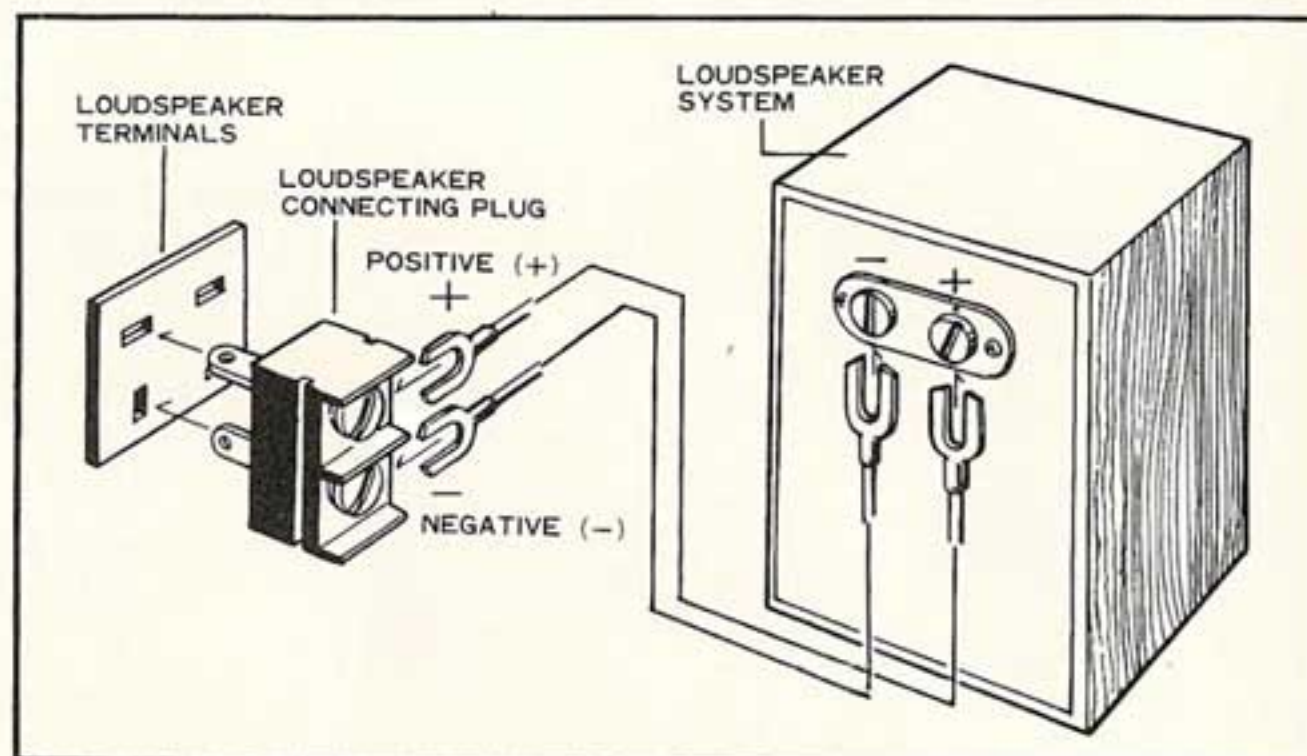

Fig. 5
1. Connect accessory loudspeaker plugs to the leads of loudspeaker system, as shown in Fig. 5. Loudspeaker leads have polarity [positive (+) and negative (-)] so connect them correctly. If positive and negative leads are shorted, a fault may result.
2. When using one loudspeaker system, use the SPEAKER A terminals (31). Connect the right channel loudspeaker system (which will be placed on the right-hand side as viewed from the front) to the terminals marked R, and the left channel loudspeaker system (which will be placed on the left-hand side) to the terminals marked L.
3. When using an additional loudspeaker system, connect it to the SPEAKER B terminals (32) similarly to the system connected to the SPEAKER A terminals (31). When using two loudspeaker systems, both systems should have an impedance of 8Ω or higher, respectively. If the impedance is lower than 8Ω , it may cause a fault in the equipment.